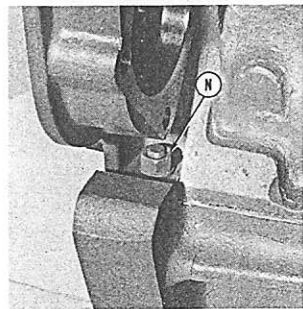

Fig. 138—Before removing oil pan on Model MF165 diesel, it is first necessary to remove front end unit and stud nut (N) from each side of timing gear housing.
Place a rolling floor jack under oil pan. On three cylinder models, remove the attaching cap screws and lower the oil pan away from engine block. On Model MF165, refer to Fig. 138 and remove stud nut (N) at left front corner of oil pan. Remove the similar stud nut on right side of block which is located behind front support spacer (S—Fig. 139). Remove the two cap screws (C) from timing gear cover, remove remainder of oil pan retaining cap screws and lower the pan with lower timing gear cover (L) attached.